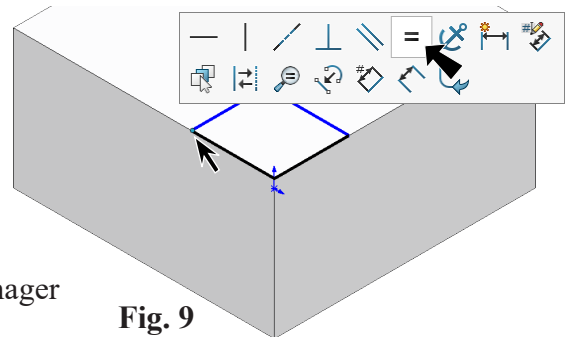
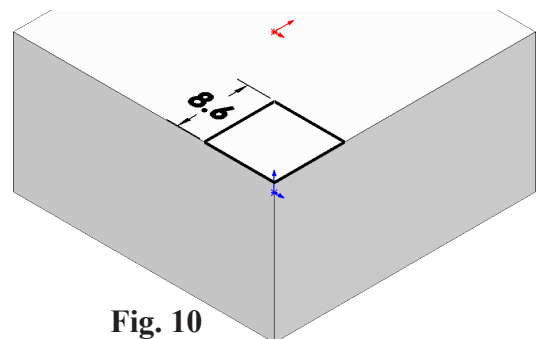

Fig. 9
Fig. 10
Step 6. **Click a vertex of rectangle** and click **Make Equal**  on the context toolbar, Fig. 9.
Step 7. Click **Smart Dimension**  (S) on the Sketch toolbar.
Step 8. Add **8.6 dimension**, Fig. 10.